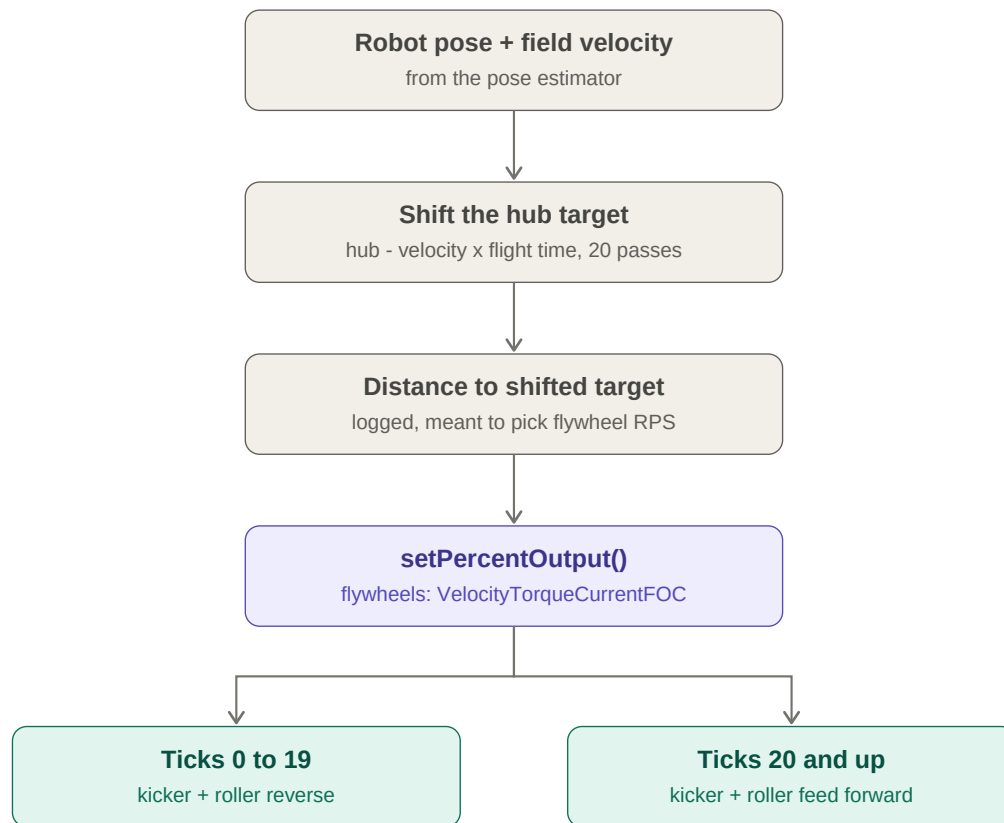

Figure 4. Shot flow. The two-phase feed at the bottom is the whole dumper trick.
- **Distance does not set the flywheel speed.** All of the shift-the-target math ends in a call to `setPercentOutput(distance, ...)`, but that method ignores the distance and reads the tunable `Shooter/RPS` from the dashboard instead. The distance lookup table is commented out at `PhysicalShooter.java:157`. That may be intentional for a fixed-angle dumper, but the third box in Figure 4 is currently logging only.